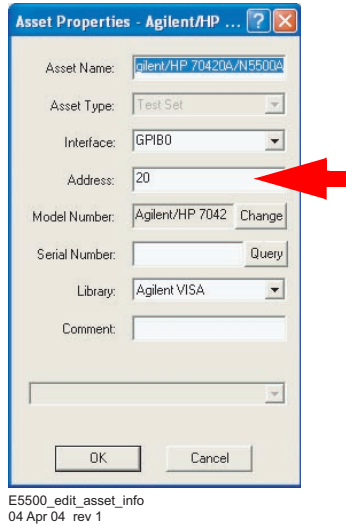

Figure 35 GPIB address dialog box
- 3 Type the desired address in the dialog box. See Figure 35.